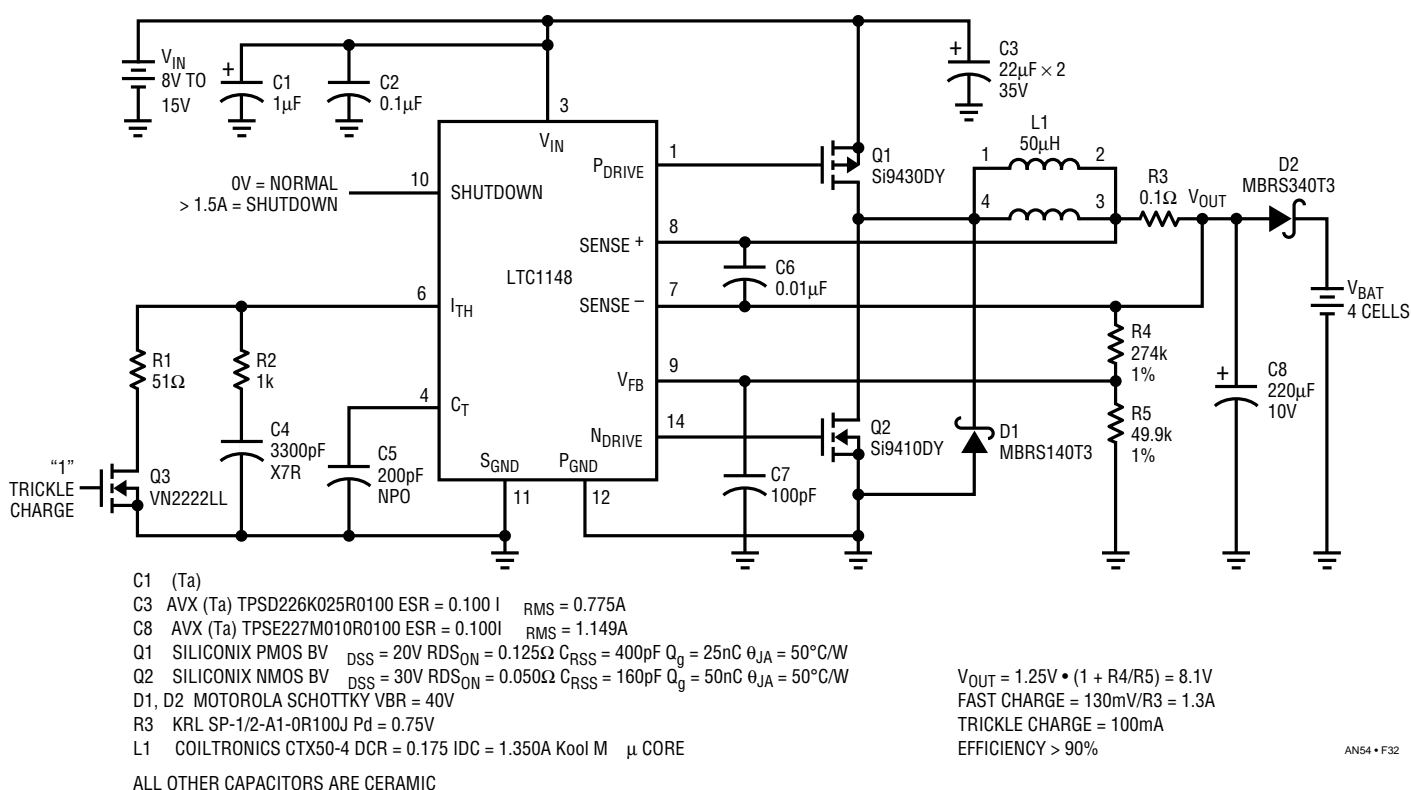

Figure 32. LTC1148: High Efficiency Charger Circuit
The LTC1148 regulator can be used as a highly efficient battery charging device. Figure 32 shows a circuit that is programmable for 1.3A fast charge or 100mA trickle charge mode. During the fast charge interval, the resistor divider network (R4 and R5) forces the LTC1148 feedback pin below 1.25V causing the regulator to operate at the maximum output current. Sense resistor R3 controls the current at approximately 1.3A. When the batteries are disconnected, the error amplifier sets the output voltage to be 8.1V (for proper operation this voltage should exceed
Figure 33 is a variation of Figure 32. It is designed to charge 6 cells and uses the LTC1148HV for higher input voltages. R4 value has been changed to provide 12.3V output when the battery is not connected.
3.3V/2A in a regular buck configuration. The other section is configured in the same way as the battery charger from Figure 32. It is powered from a wall adapter and provides the battery with fast or trickle charging rate. When the adapter is not connected, D3 prevents the battery from discharging through the R2/R1 divider network.